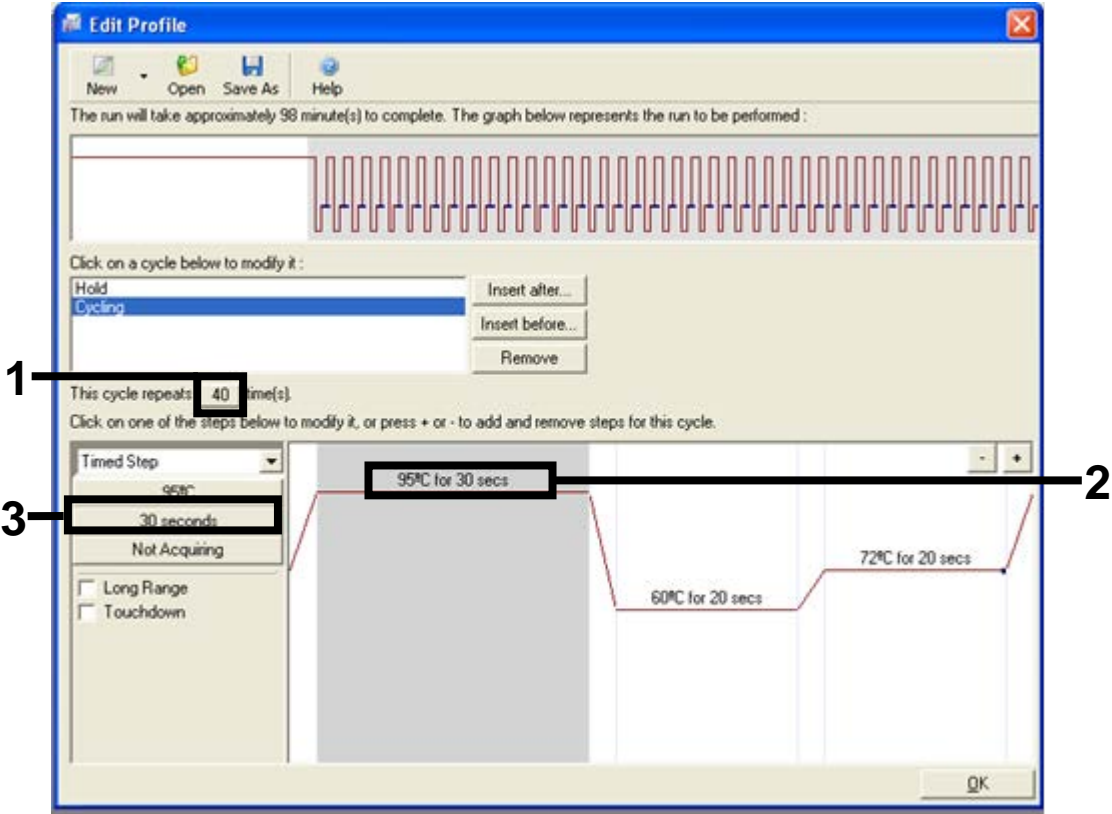

Figure 14. Cycling step at 95°C. 1 = Number of cycle repeats, 2 = Temperature and time parameter of first step of cycle, 3 = Length of first step of cycle.
8. Change the number of cycle repeats to 40. Select the first step and set to 95°C for 30 secs (Figure 14).